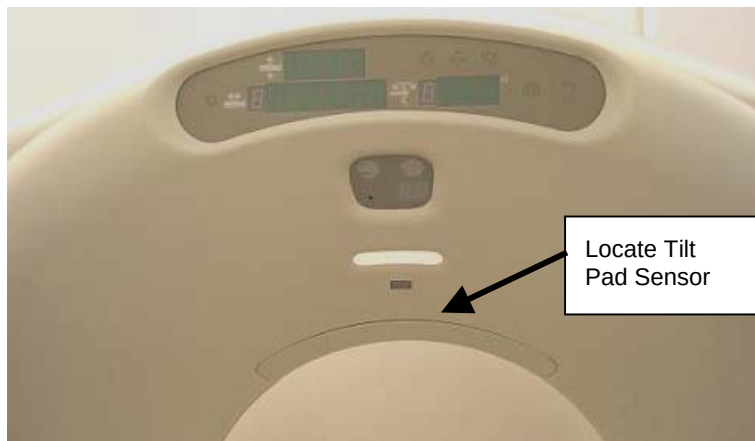

Figure 8 Tilt Pad Sensor Location
9. Remove Tilt Sensor Pad by removing two nut fasteners and replace with new Tilt Pad Sensor. See Figures 8 & 9.